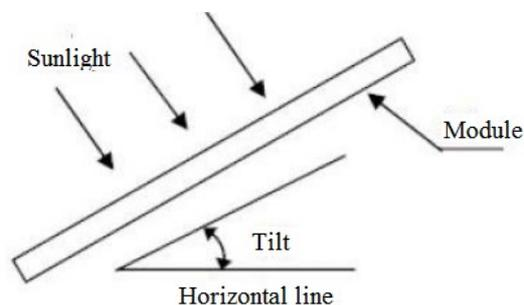

Figure 2 PV module tilt angle
**2.2.4** The tilt angle of solar modules refers to the angle between the module's surface and the horizontal plane. As shown in Figure 2, the power output is maximized when the module's surface is perpendicular to sunlight. It is recommended that the module installation angle is not less than 10 degrees. For detailed information on the optimal installation tilt angle, please consult a reputable local solar system installation company.